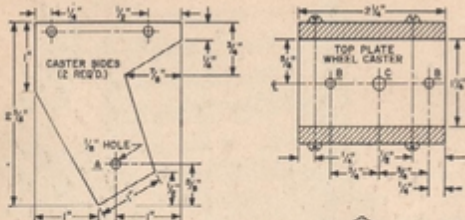

Fig. 1. Caster sides and top should be screwed together. Resultant caster assembly should be rigged.
Cut out three rear-wheel caster pieces as per Fig. 1, clamp the two side pieces together in a vise, and drill a 1/8" axle hole at "A." Assemble the caster unit, using washers to space the rear drive wheel in the center of the shaft. The wheel should
- Misc.  $\frac{1}{4}$ "-thick Plexiglas scraps (see Figs. 1 to 5); screws; springs; washers; hardware; and plastic metal or cement
Mount the previously assembled drive unit within the drive support with the 10-32 pivot bolt through *F* and into tapped hole *C* (Fig. 1) and *E* (Fig. 2). Tighten screw, then back it off to allow free swiveling. Place nut on screw end and tighten to lock it. Then mount this whole assembly on the platform so that the wheel assembly can swivel freely between limit screws.